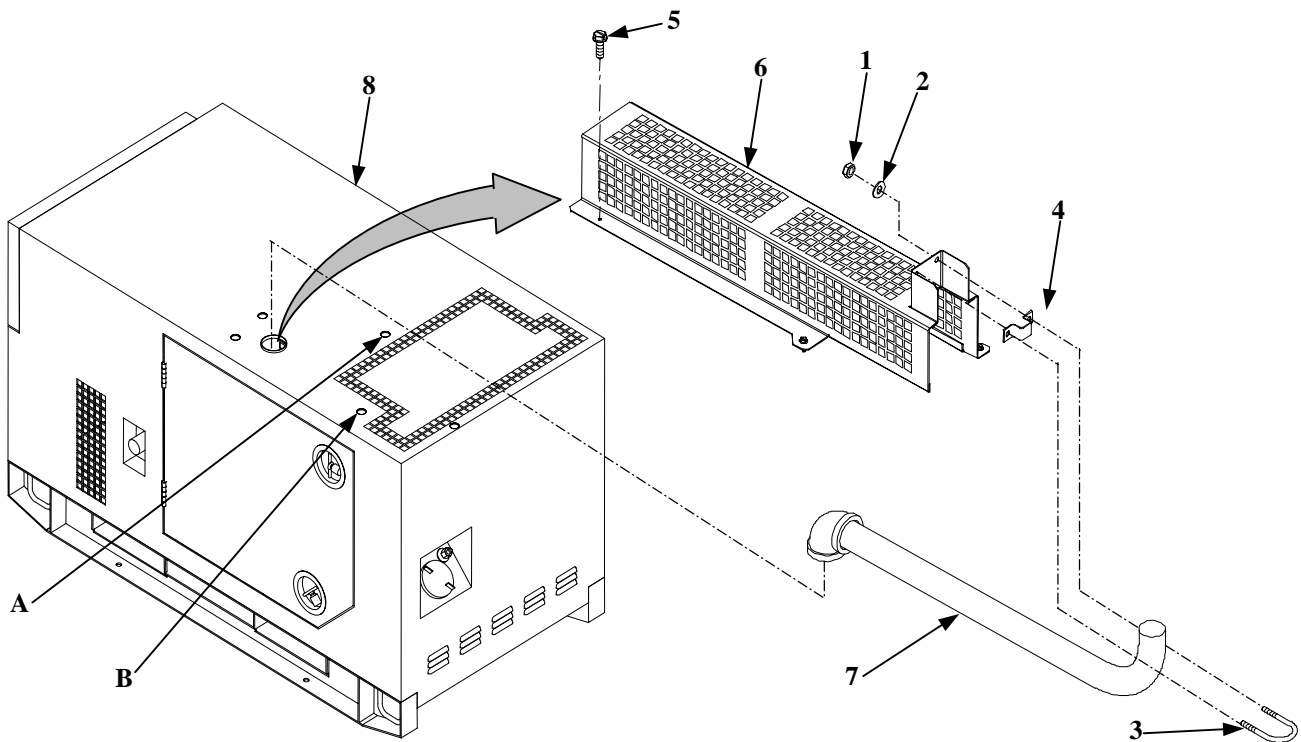

Figure 2. Generator Set Disassembly / Assembly
1. Install horizontal exhaust pipe (7, Figure 2). Final position will be accomplished when shield and clamp are installed.
2. Remove two screws (5) from generator set at positions (A and B).
3. Position horizontal exhaust shield (6) over exhaust pipe (7) and install two screws (5) in position (A and B).
4. Install spacer (4) and exhaust U-clamp (3) on exhaust pipe (7) secure with two lock washers (2) and two nuts (1). It may be necessary to move exhaust pipe to align clamp, pipe and shield.
5. Using horizontal exhaust shield (6) as a template, drill three .125 diameter holes in top panel of generator set (8).
6. Install three screws (5) to secure horizontal exhaust shield (6) to generator set (8).
7. Loosen two nuts (1) on U-clamp (3) to allow for adjustment of pipe (7) when generator set (8) is moved to stowed position.